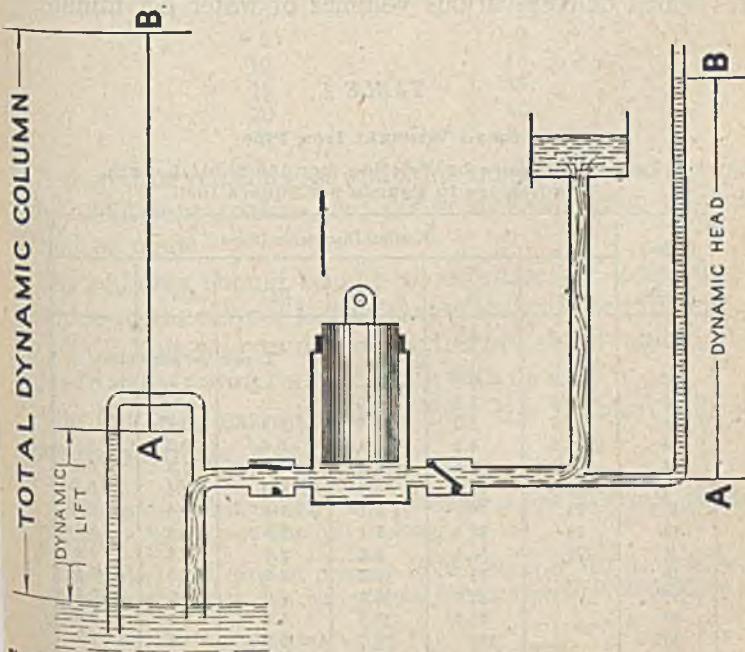

Fig. 19.—The total dynamic column being made up of the dynamic lift + the dynamic head. Note **AB** at left = **AB** at right.
**Dynamic Total Column.**—By definition, *the dynamic lift + the dynamic head, or the equivalent or virtual total column of water in motion, which represents the pressure due to the total static column plus the resistance to flow due to friction as shown in fig. 19.*